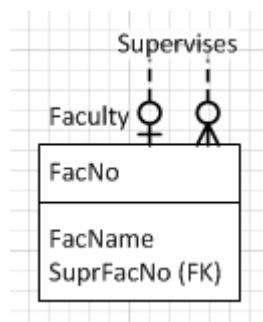

Figure 49: *Supervises* Relationship after Moving Midpoints
- Refine the Appearance of the Relationship: To improve the appearance of the relationship, you should select it and then move the midpoints so that the entity type name is no longer obscured. Figure 49 shows the *Supervises* relationship after the midpoints were moved. Note that the entity type name is no longer obscured. It would seem a good idea to reroute the relationship so that it connects from the top to the side. However, the author's attempts to reroute the relationship were not successful.